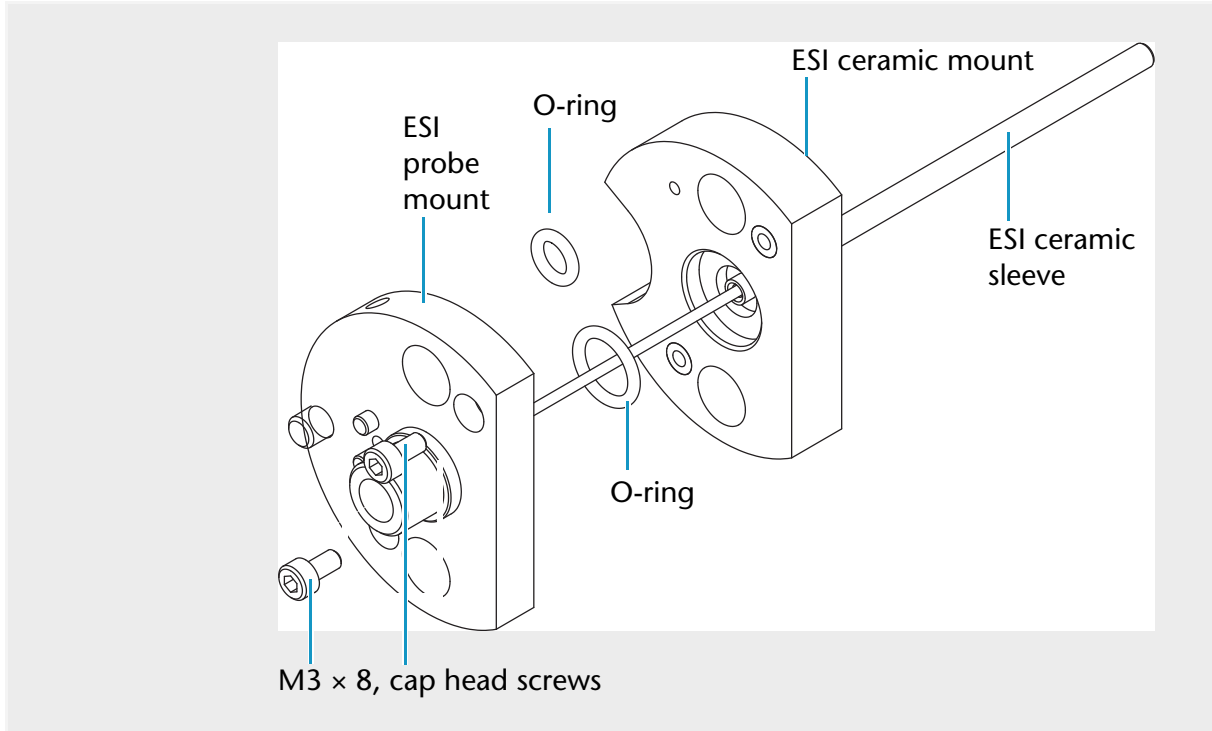

Fig. 40 Pulling the ESI probe mount out of the ESI ceramic mount
6. Insert a new ESI ceramic sleeve (part number A66543) into the ESI ceramic mount. See Figure 40.